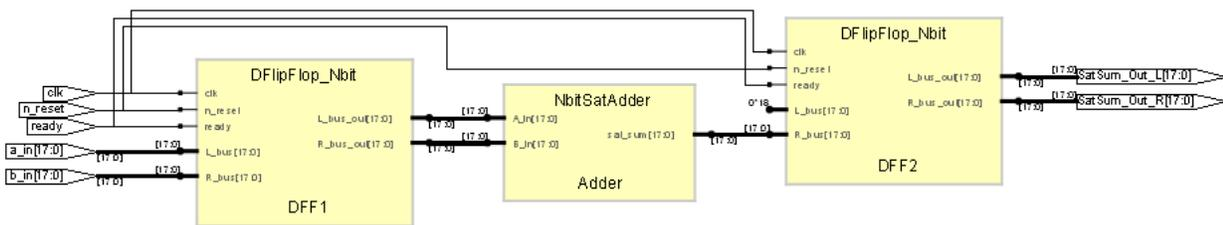

Figure 5 – RTL Schematic
11. A new file will be created under the Input Files folder within the File List Window. This is the test bench template and has most of the VHDL needed to run a simulation. The file can run from this path or it can be moved into the source folder. The test bench can now be renamed from "testbench.vhd" to something like "top_testbench_tutorial_tb.vhd" as in this example. The test bench also needs custom test vectors to drive the top level design input ports and a process to control the clock. Signal assignments will need to be made in the "tb:PROCESS" process. A process called "clock:PROCESS" will be added to control the clock. An RTL schematic of the driven architecture can be created (optionally) in Synplify Pro by opening Synplify Pro in the Lattice Diamond tool bar and then clicking on the "RTL View" button after the design has been ran. It will create an RTL schematic like the one seen in Figure 5 below.